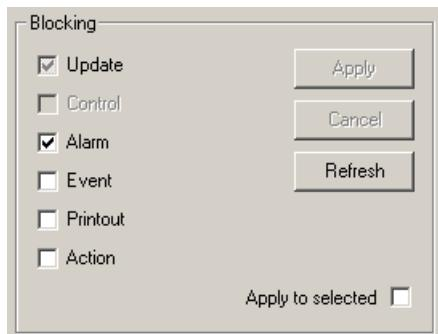

Figure 76: Example of condition on Blocking check boxes
- checked, respective measurements are blocked (**Alarm** in Figure 76).
- unchecked, respective measurements are not blocked, (**Event**, **Printout** and **Action** in Figure 76).
- grayed out, some but not all measurements are blocked (**Update** in Figure 76).
- disabled, blocking cannot be applied to the function in question (**Control** in Figure 76).